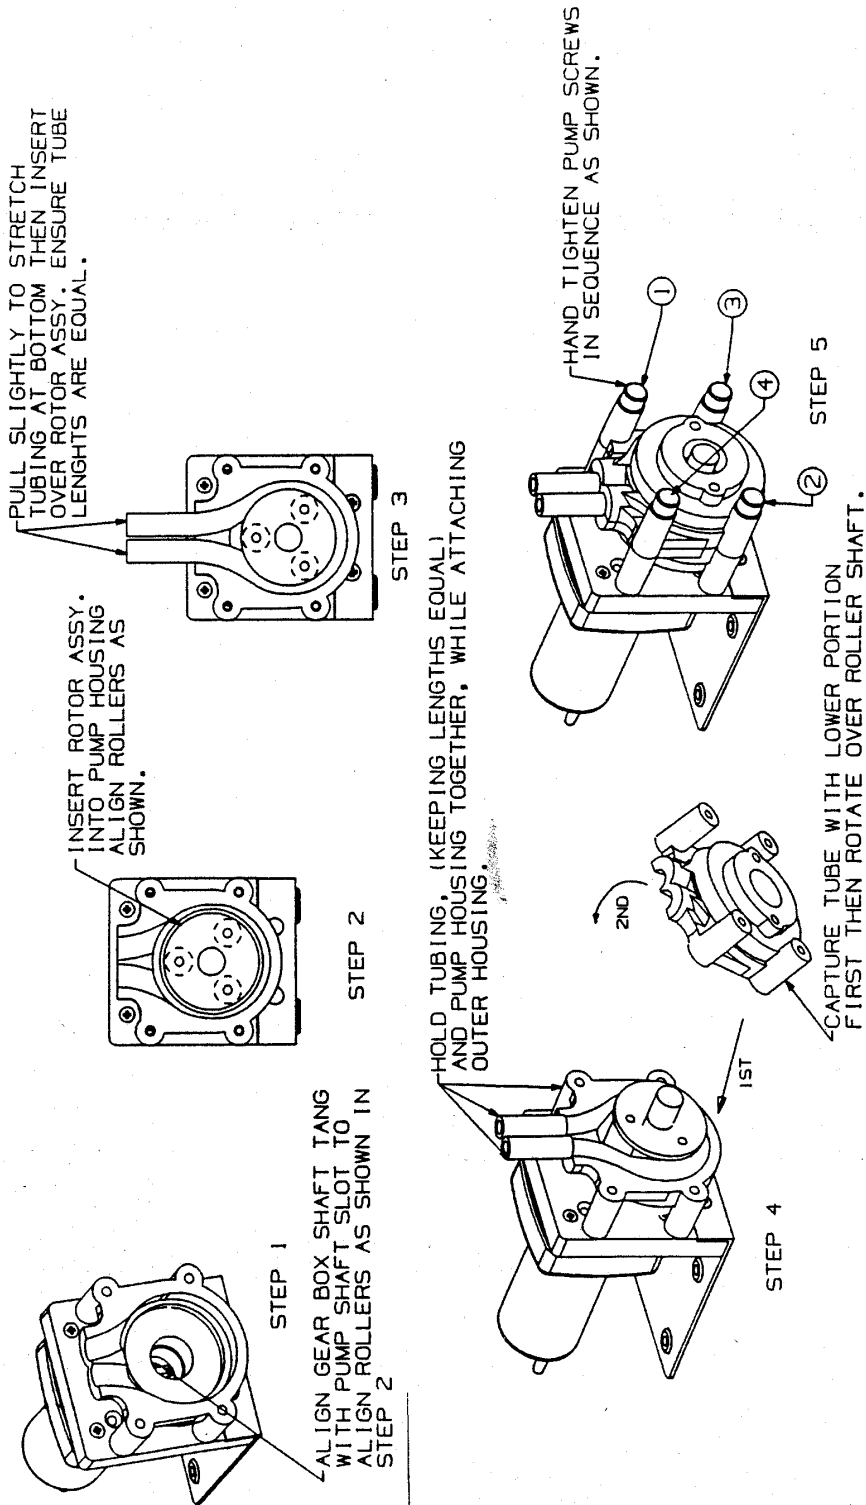

FIG. 3
5. Remove the old hose from the pump body. If the rollers come out with the hose, place in back into the housing being sure to align the roller assembly shaft keyway to the motor shaft key so that the two interlock (see figure 3 for step by step pictorial instructions).